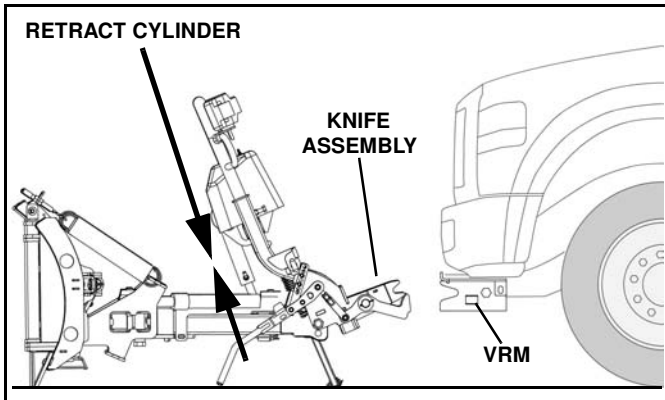

Figure 1-43
3. Retract the lift cylinder (raise the plow) until the A-Frame contacts the stacking stop. (See Figure 1-43).